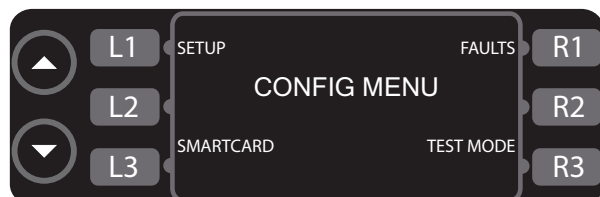
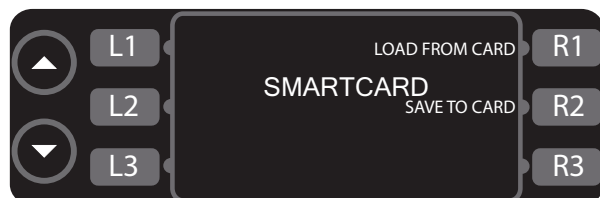

Figure 11: Config Mode
Figure 12: Smart Card Screen
The CONFIG MODE (Figure 11) serves four main purposes:
1. Press L3 (Figure 11) to access the smart card screen (Figure 12).
- Press R1 to load a menu from the smart card to the oven (Figure 12).
- Press R2 to save a menu from the oven to the smart card (Figure 12).
From the CONFIG MODE (Figure 11), press R1 to access the fault counts screen (Figure 15). The oven will display the number of faults that have occurred.
From the CONFIG MODE (Figure 11), press L1 to access the SETUP MODE. The SETUP MODE allows the user to customize several oven settings - see below for more details.